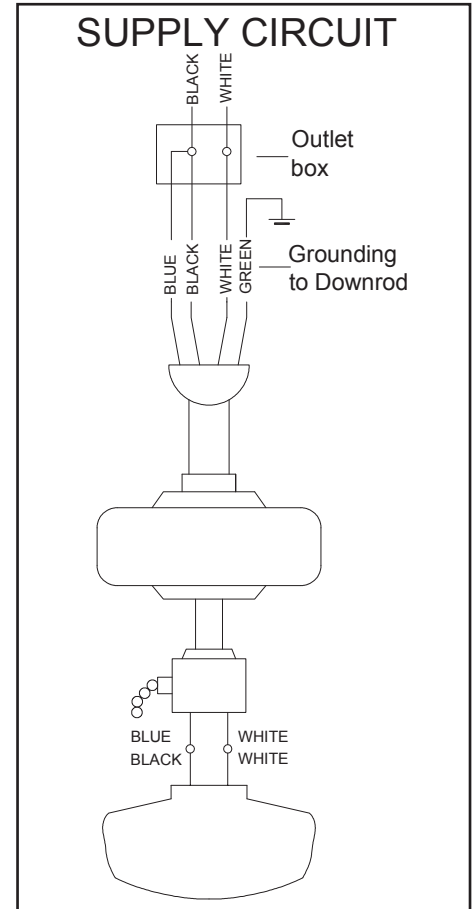

Figure 10
Follow the steps below to connect the fan to your household wiring. Use the wire connecting nuts supplied with your fan. Secure the connectors with electrical tape. Make sure there are no loose strands or connections. (Figure 10)
3. Connect the fan supply (black and blue) wire to the black household supply wire as shown in figure 10.